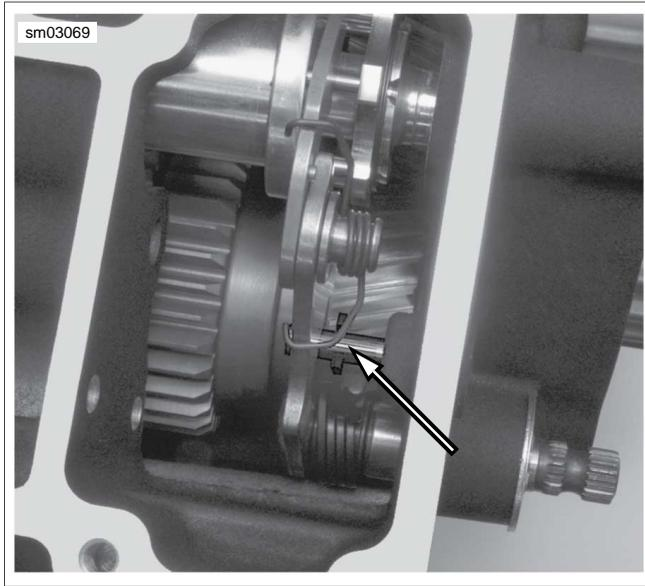

Figure 7-59. Shifter Shaft Lever Spring
5. See Figure 7-59. Verify that pin sits inside shifter shaft lever spring.